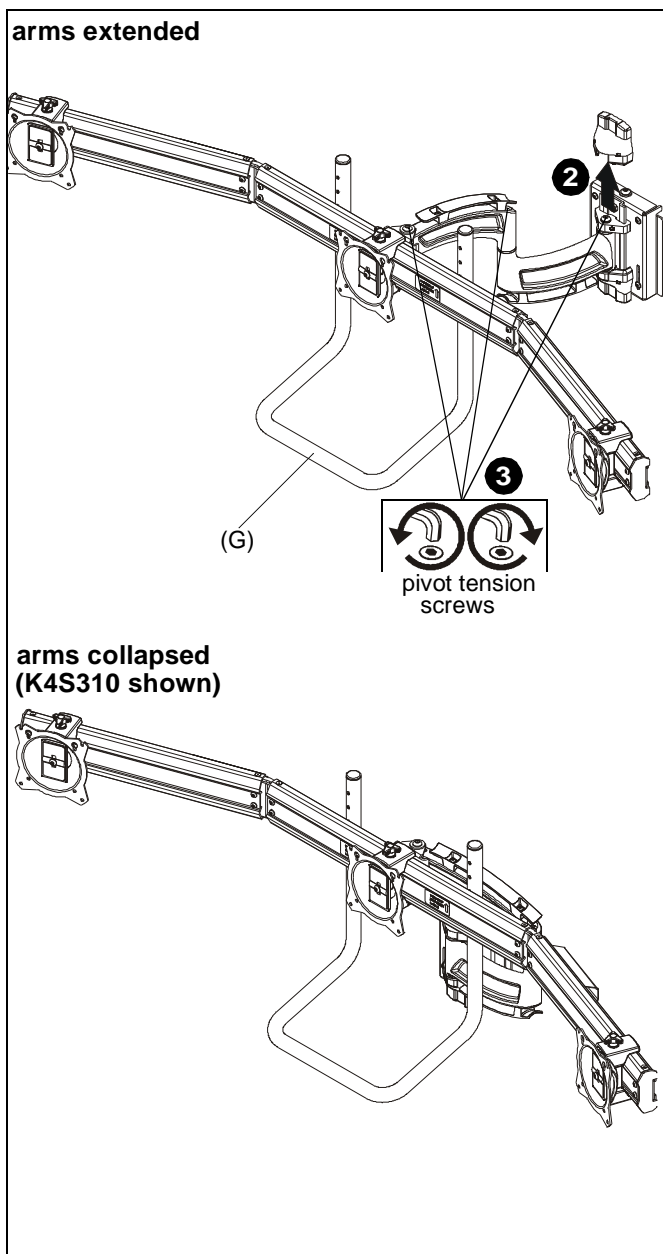

Figure 11
1. Use handle (G) to extend or collapse column arms as desired. (See Figure 11)
2. Remove upper wall bracket cover (H) to expose one of three pivot tension screws. (See Figure 11)
3. (Optional) Loosen or tighten column arm pivot tension screws as desired to increase or decrease pivot tension. (See Figure 11)